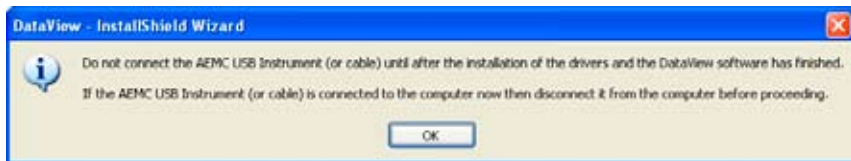

Figure 7-3
10. If the feature selected for installation requires the use of a USB port, a warning box will appear, similar to Figure 7-3. Click **OK**.